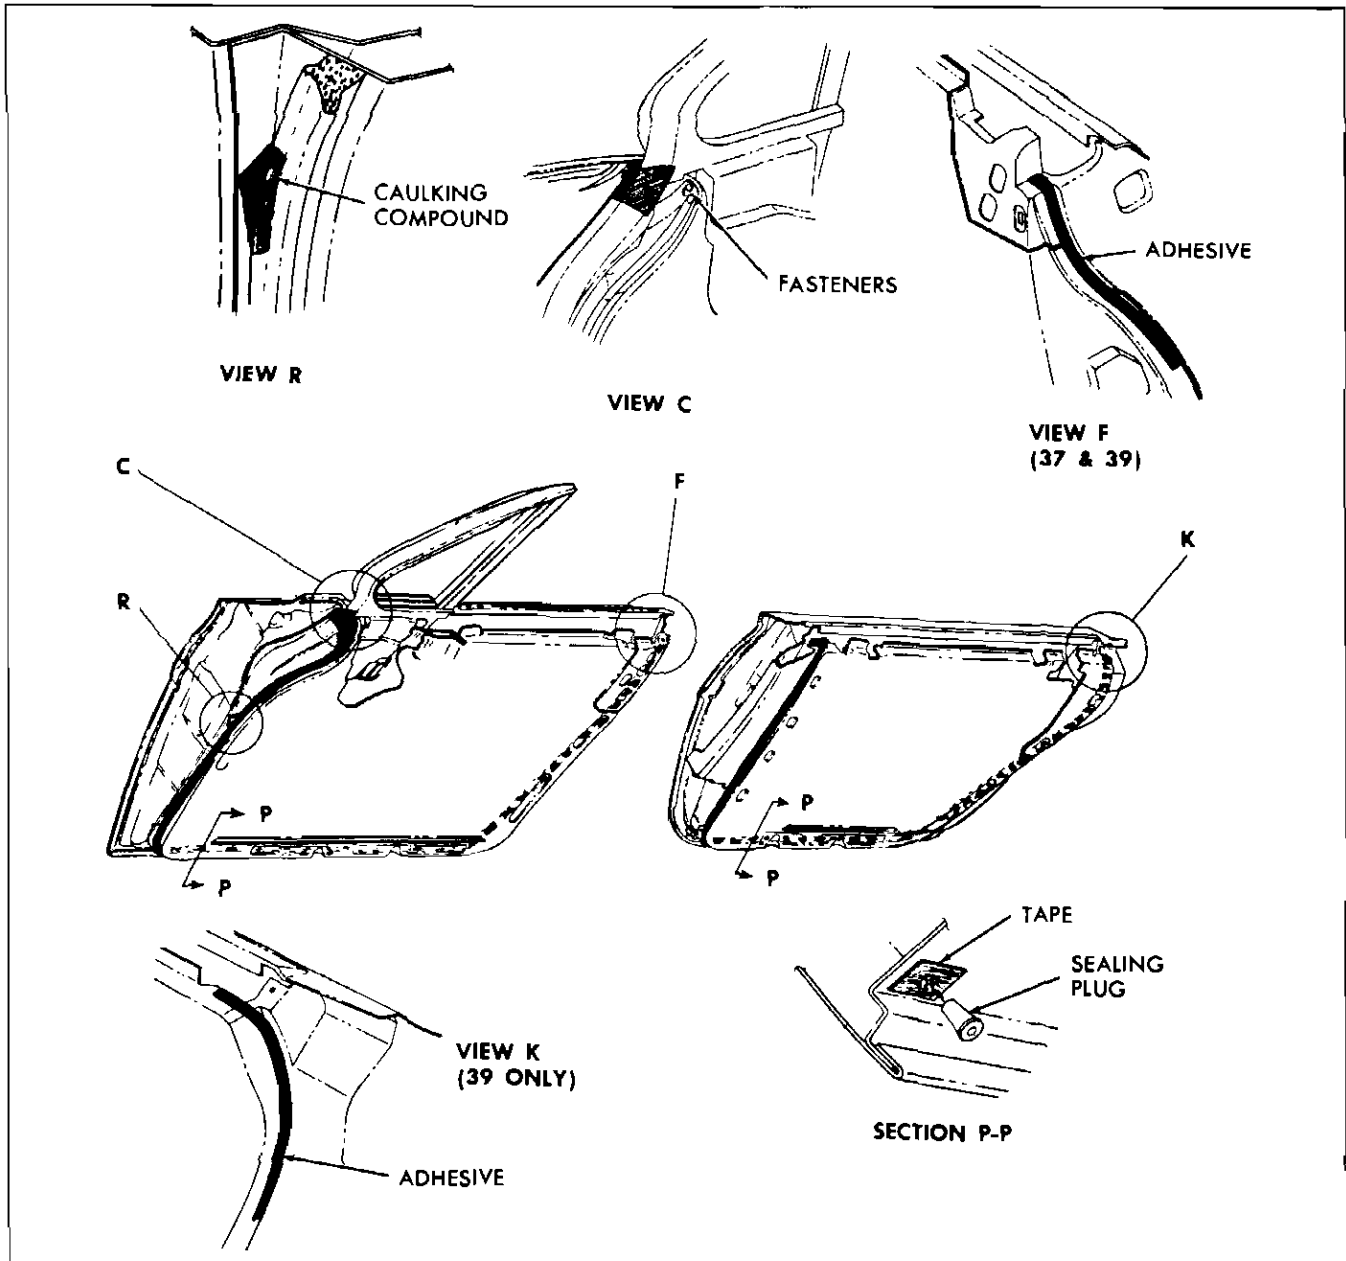

Fig. 2-2 Door Weatherstrip—37, 39, 67 Styles
3. At upper rear portion of front door weatherstrip on 37 and 67 styles and upper rear portion of rear door weatherstrip on 39 and 99 styles carefully break cement bond securing weatherstrip to door inner panel (Fig. 2-2, Views F and K).
2. Check all attaching hole sealing plugs. If sealing plugs are loose and will not remain engaged in door inner panel, install a $\frac{1}{2}$ " x 1" piece of cloth backed waterproof body tape over sealing plug retaining hole, as shown in Section "P-P", Fig. 2-2. Make two $\frac{5}{16}$ " slits in tape to form an "X". Install plugs and check for a snug fit. If plug is still loose, repeat above operation by installing a second piece of tape over existing repair. This procedure may also be used to repair waterleaks which may develop at sealing plug locations.
inner panel with body caulking compound (View R, Fig. 2-2.)